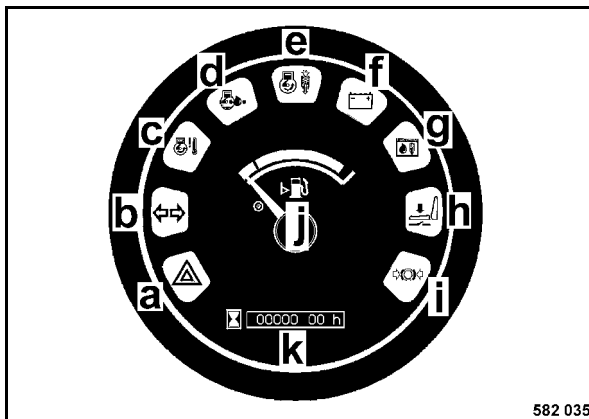

Fig. 59
- Check the fuel level on the fuel gauge "j" (Fig. 59).